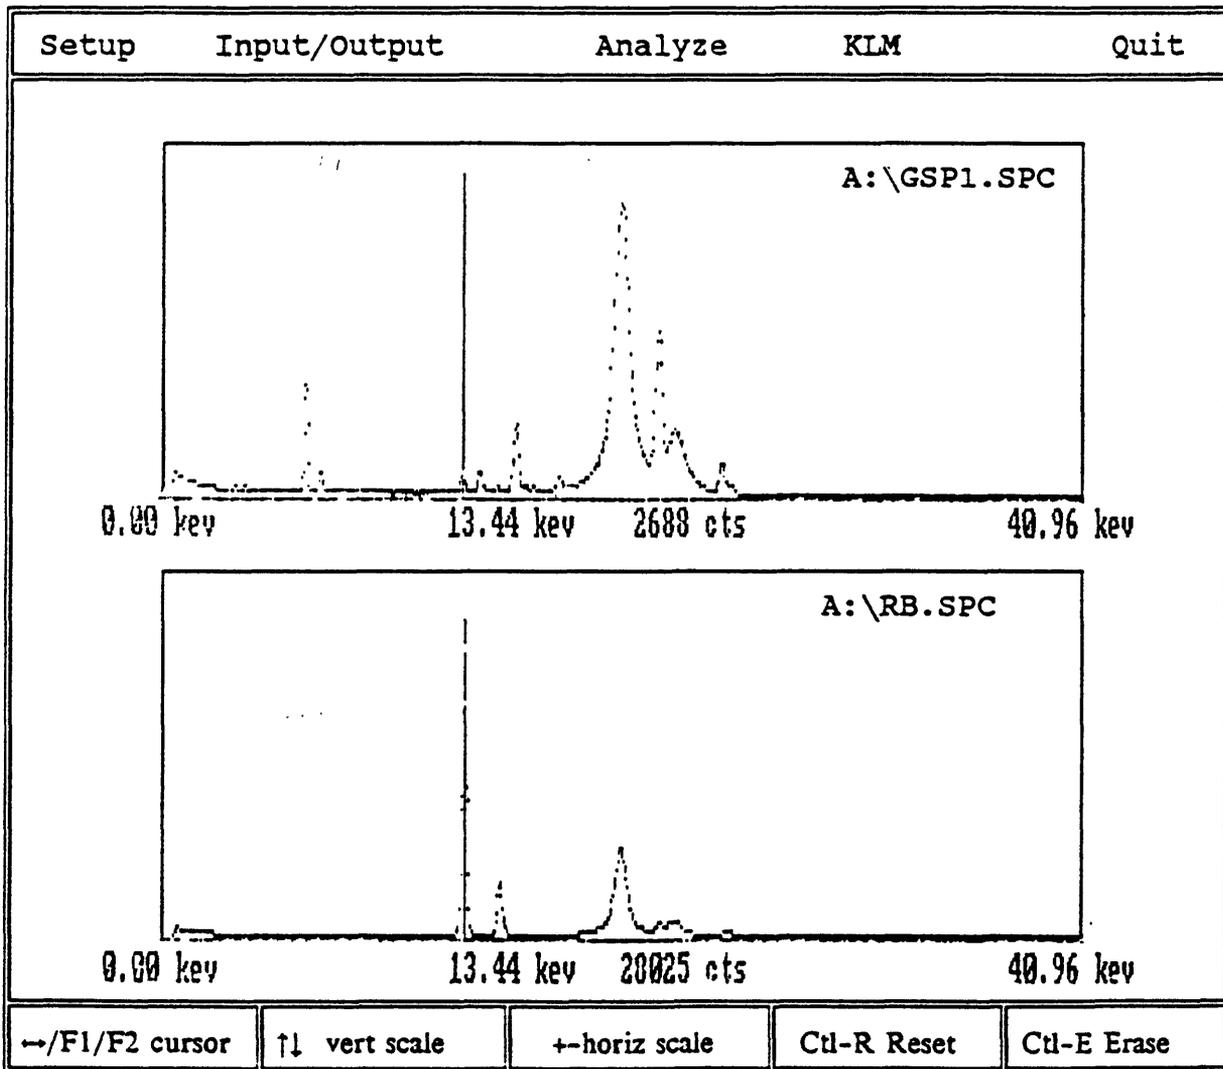

Figure 13. Two spectra displayed simultaneously.
- 3) Answer the prompt "Select display!" by typing either "1" or "2" and "Enter". "1" displays the spectrum in the upper half of the screen. "2" displays the spectrum in the lower half of the display. Previously displayed spectra will be erased from view as necessary (fig. 13).